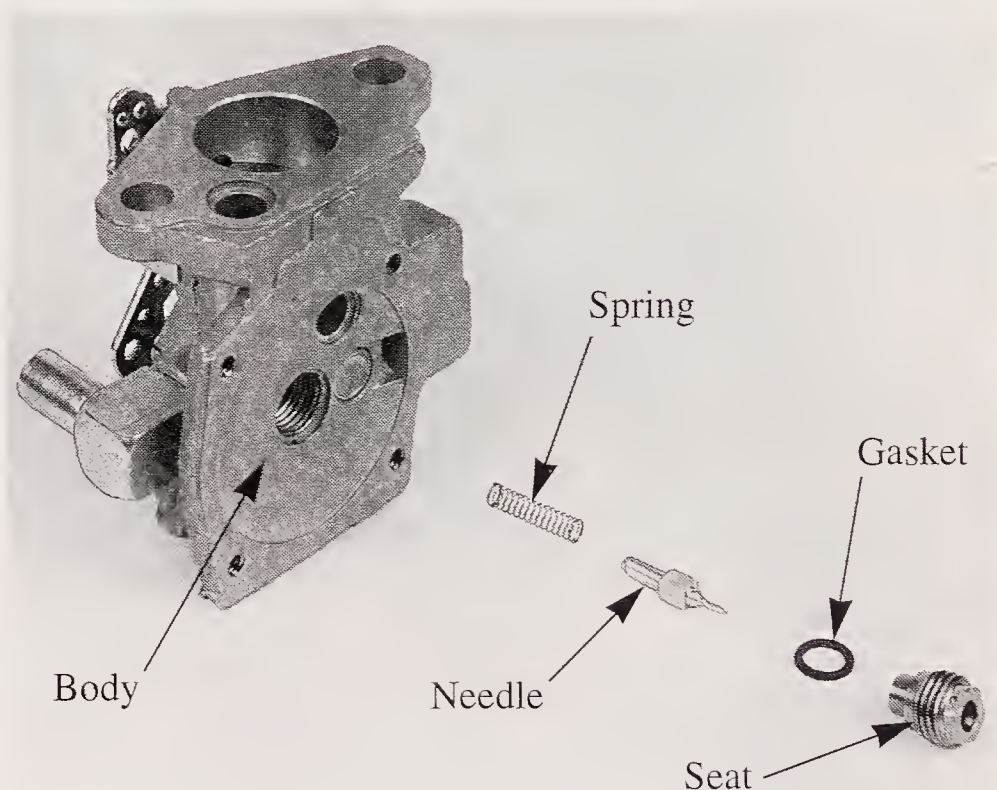

Figure 13-30. Diaphragm needle valve is installed in carburetor body in sequence shown.
3. Install the spring and needle valve in the order shown in **Figure 13-30**. The spring and needle valve are inserted into the body. The gasket and seat are then screwed into the threaded hole in the carburetor body.